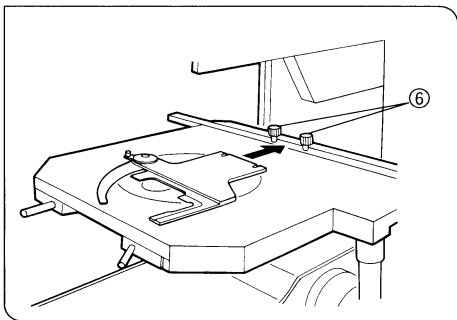

Fig. 5
3. Tighten the specimen holder clamping screws. (Fig.5)